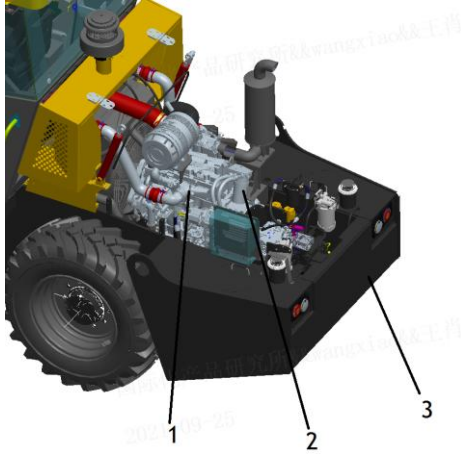

Figure 3-23
3.4.5.1 Replacing the fuel filter (Figure 3-23)
3.4.5.2 Replace the engine oil and filter (Figure 3-23)